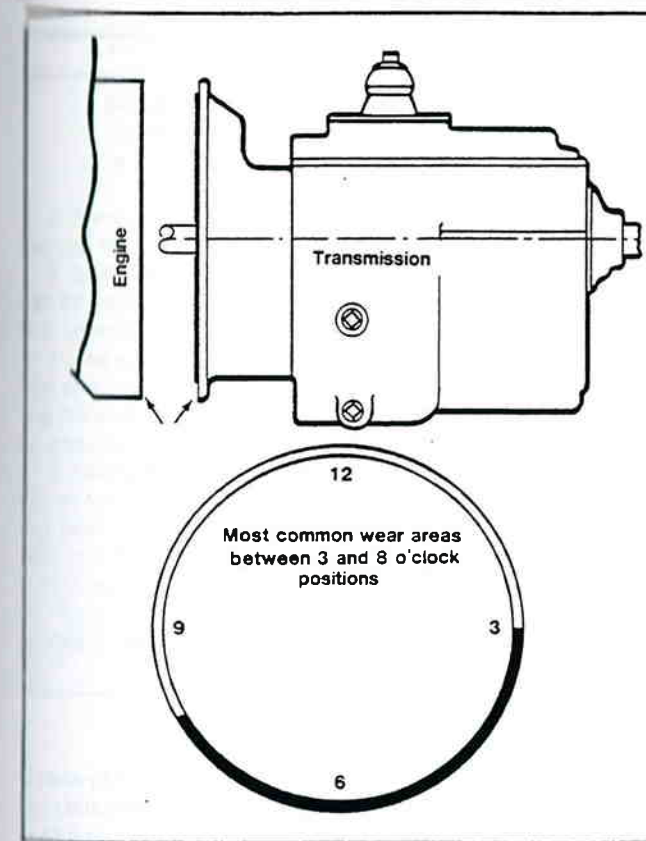

Figure 5-27. Housing Wear Areas.
1. Inspect the mating faces of the transmission clutch housing and the engine flywheel housing (figure 5-27). Any appreciable wear on either housing will cause misalignment. Replace housing if worn. Most wear will be found on the lower half of the facings. Most common wear areas are between the 3 and 8 o'clock positions (figure 5-27).